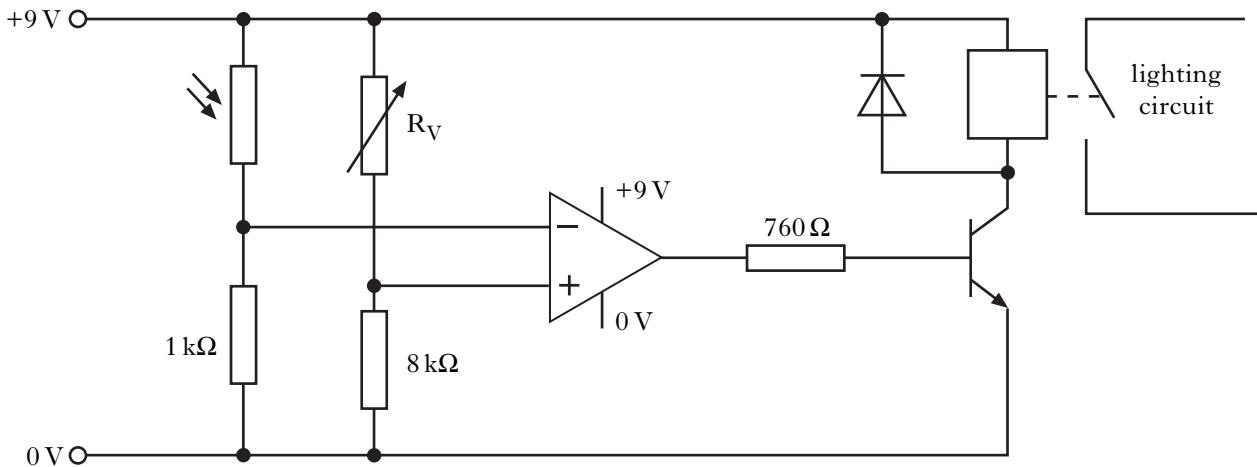

Figure Q6
6. An energy-saving system is installed in a new office block. If the natural light level in an office is high enough, the lights turn off automatically. The control circuit is shown in Figure Q6.